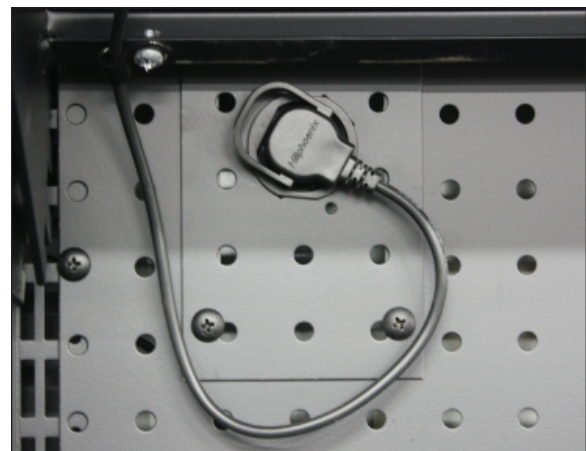

Fig. 10 LED light power cord
1. Unplug the luminaire (Fig. 10).